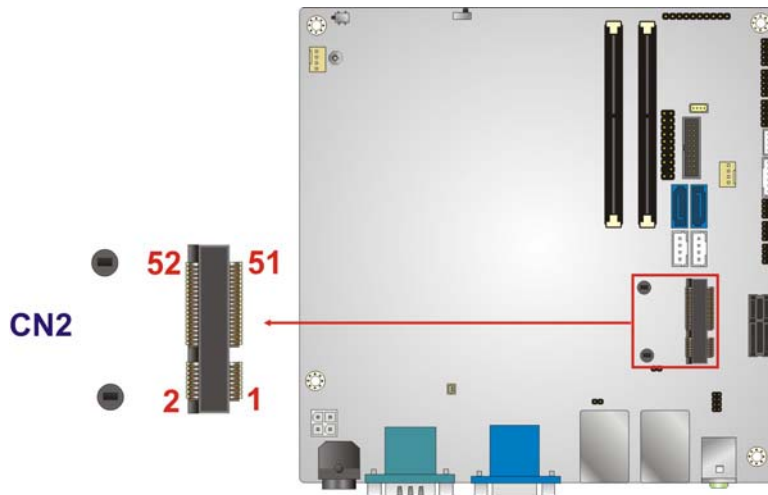

Figure 3-16: PCIe Mini Card Slot Location
- CN Location: See Figure 3-16